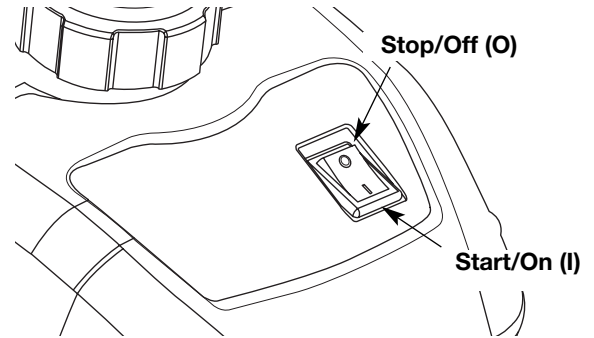

Fig. 6
2. Make sure the On/Off Stop Control in the ON (1) position (Fig. 6).